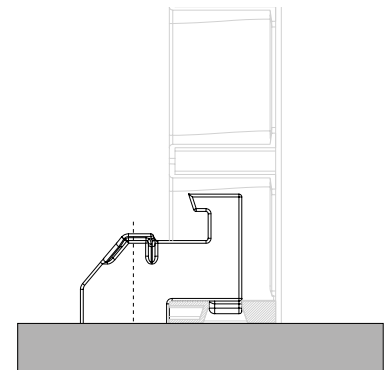

Fig. A3.14
2. Attach the lug (**41.2**) of the DUO frame holder (**41**) to the connector pocket of the DP panel. (Fig. A3.14)